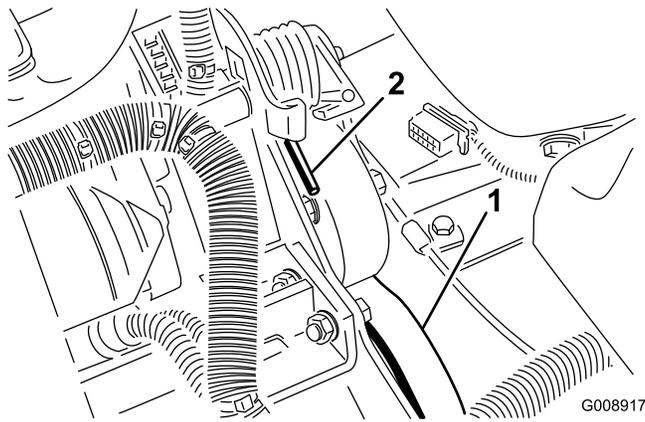

Figure 55
2. Push down and forward on the spring end (Figure 55) to unhook it from the bracket and release tension on the spring.